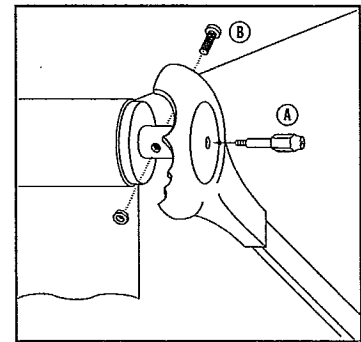

Fig. A5
- 3) Screw the threaded end of the shaft retention tool (A) (or a 1/4-20x2" bolt with a washer under the head) through the hole in the center of the Zip Dee Logo in the front main arm head into the shaft of the motor. (**Fig. A5**) Sung tight with ½" socket wrench,--don't use excessive force. **Note: the retention tool keeps the head and motor fastened together to step 6.**